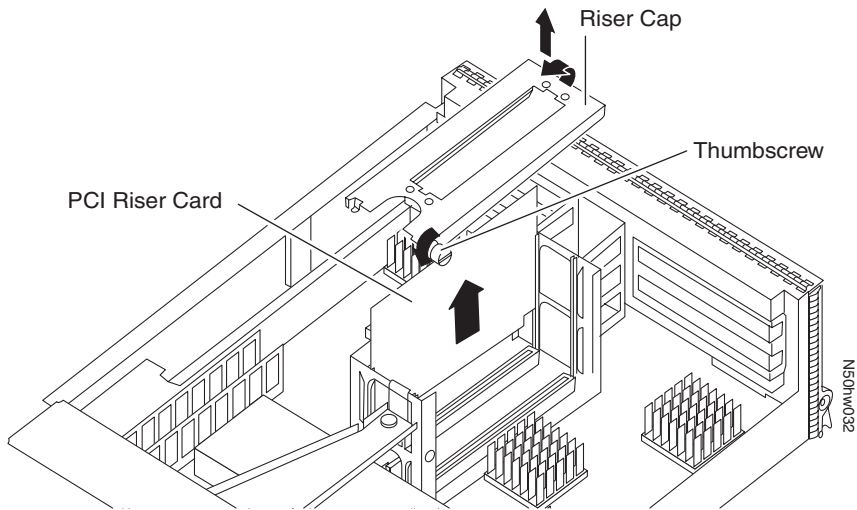

Figure 19. PCI riser
3. Remove the risers by completing the following substeps, using Figure 19 for reference: